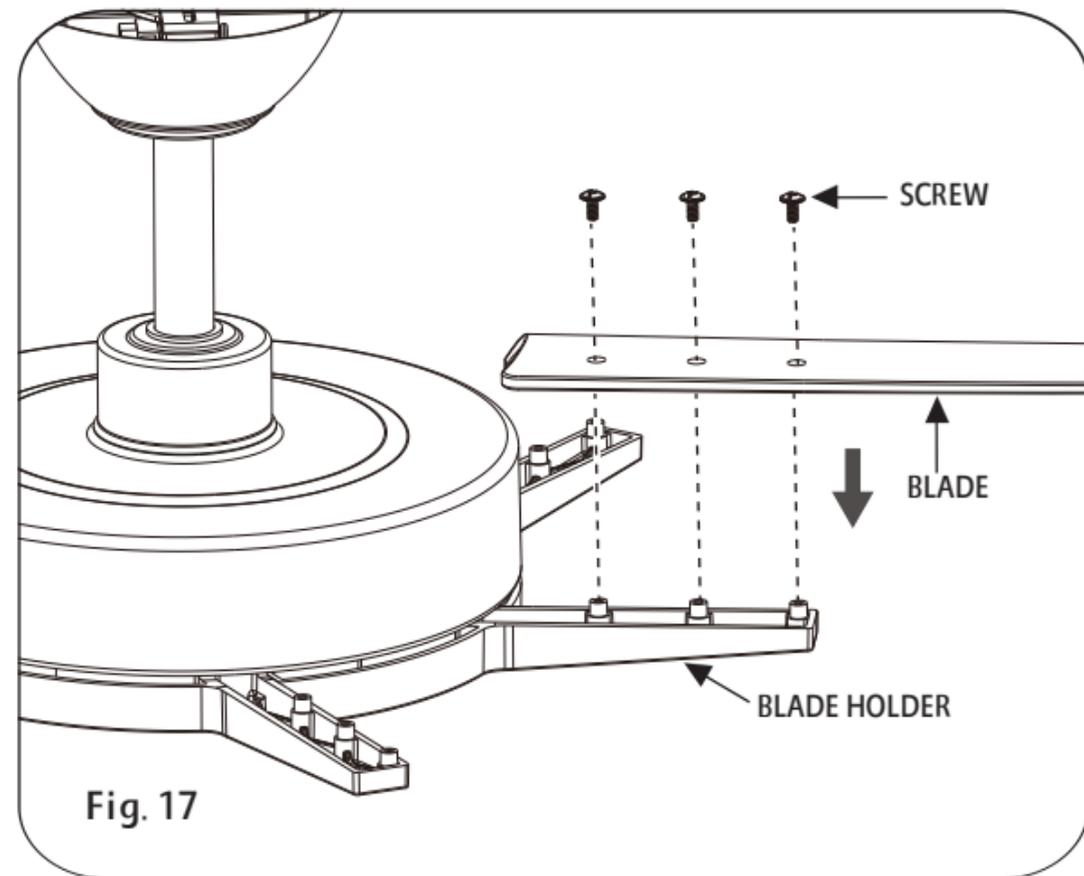

Fig. 17
Step 3. Attach the fan blades to the blade holders by using three screws. Tighten screws securely. Repeat process with other blades. (FIG.17)